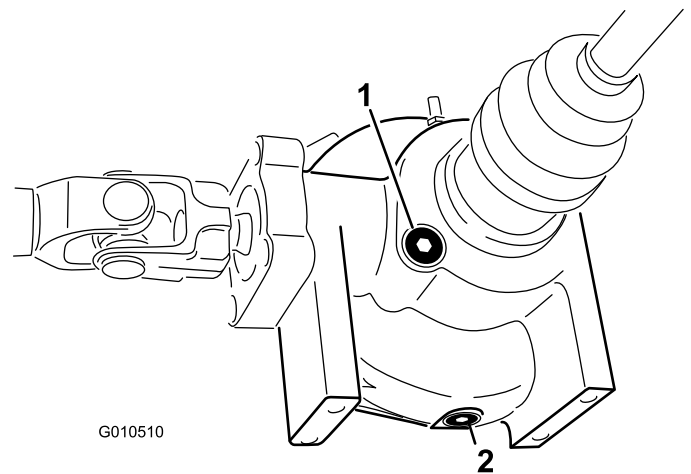

Figure 18
- Clean the area around the fill/check plug on side of the differential (Figure 18).